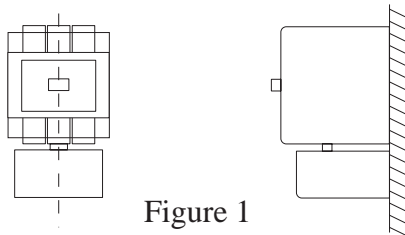
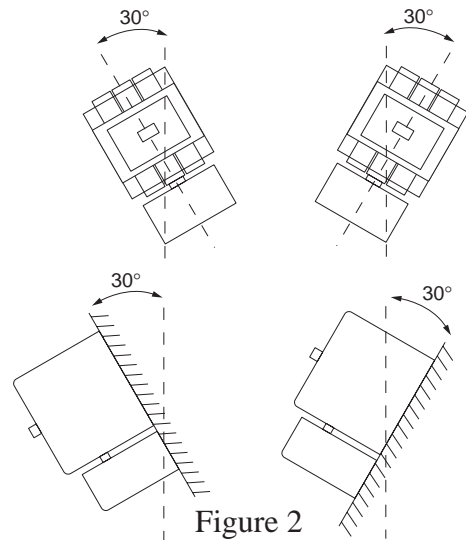

Figure 1
Figure 2
2. Standard mounting is done on a vertical surface in the directions shown in Figure 1. However, a mounting angle up to 30 degrees is allowed in each direction as shown in Figure 2. Operational characteristics of the product, when mounted with these angles are listed on the next page.